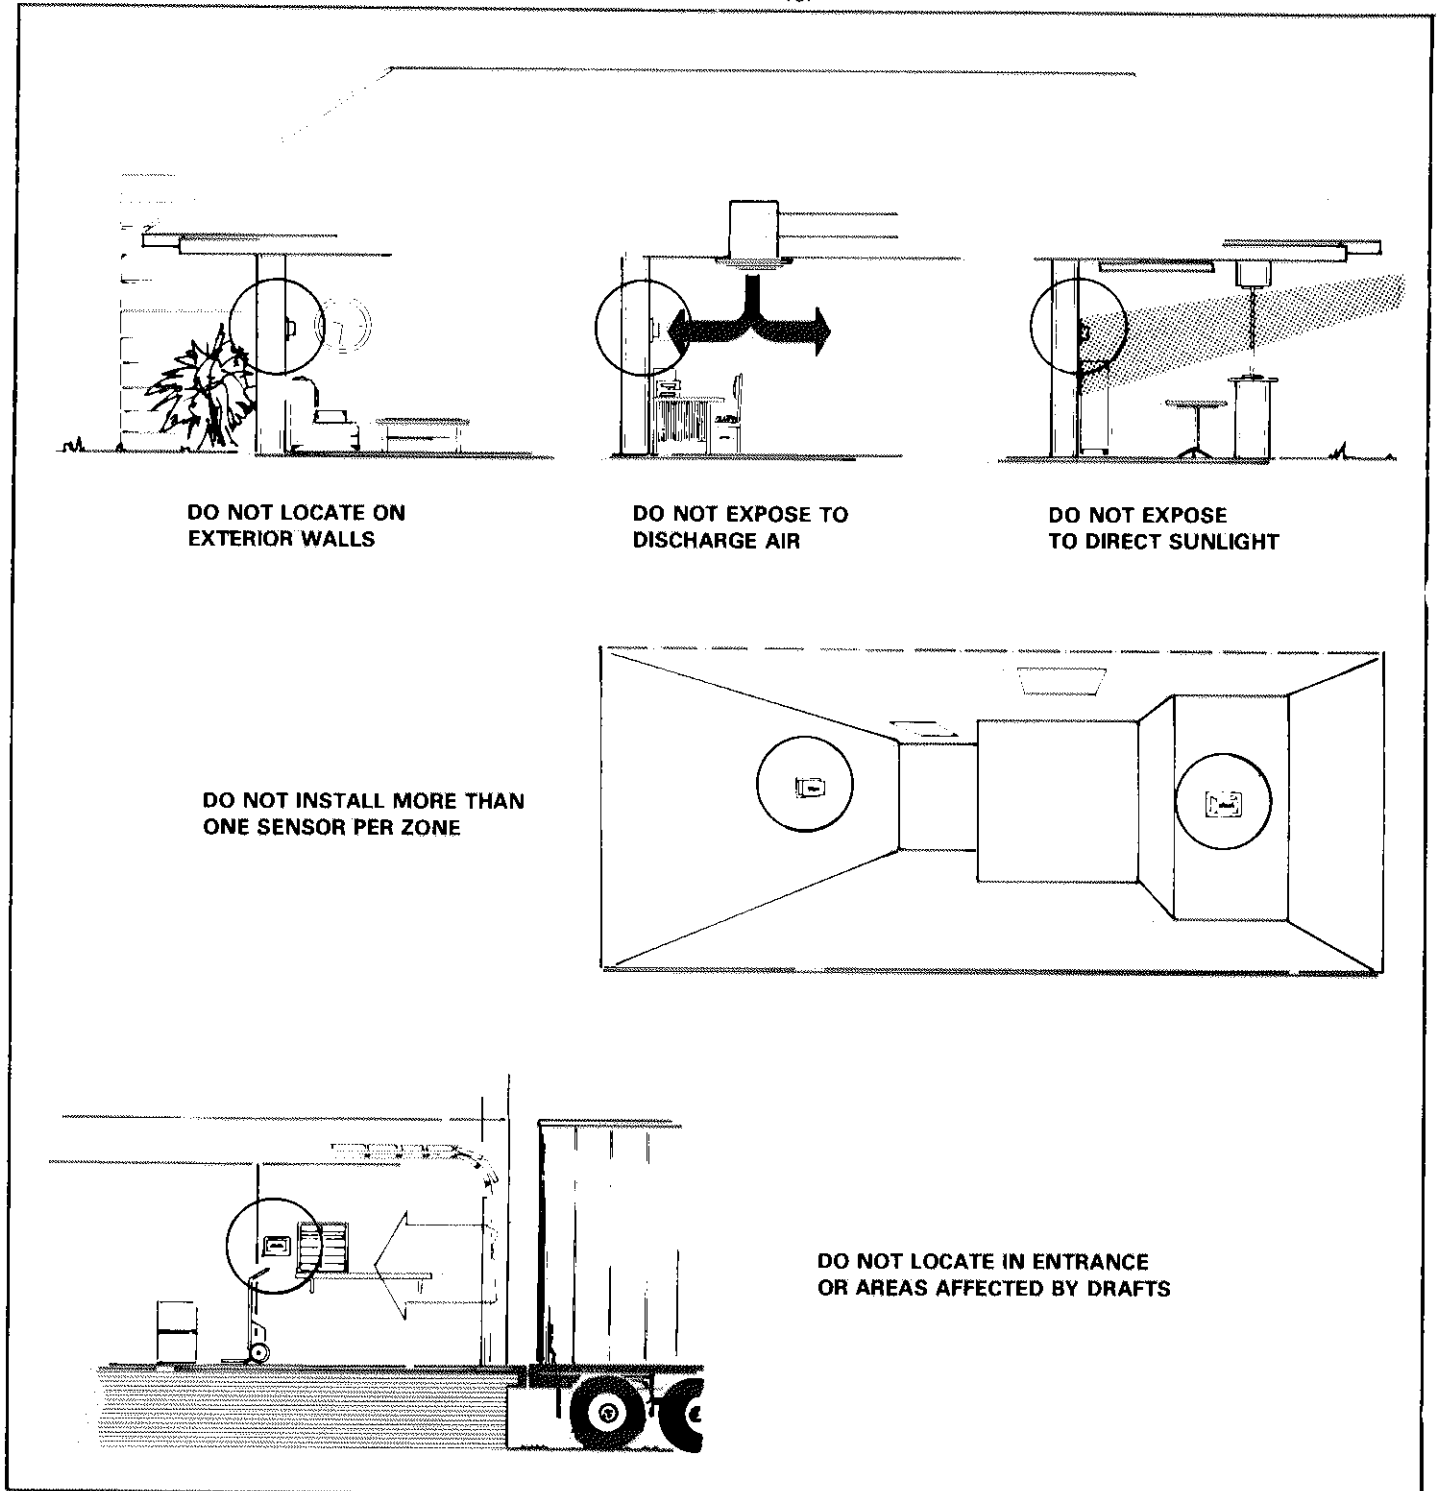

FIGURE 16
- 7 - Only one room sensor should be used per zone. If a zone requires more CFM (m^3/sec) than one zone head damper can deliver, it is recommended two or more dampers be slaved (linked) together to satisfy zone requirements. Adjacent dampers in the zone head can be slaved together with mechanical linkage. Non-adjacent dampers can be electrically slaved together. **DO NOT USE MULTIPLE ROOM SENSORS IN THE SAME ZONE.** See Figure 16.
- 2 - Do not locate room sensor on an exterior wall, in an entryway, or in direct sunlight. See Figure 16.
- 3 - Make certain room sensor or sensors are located where they sample air in the occupied space for a particular zone, however, direct impingement by discharged air upon the room sensor should be avoided or minimized. See Figure 16.